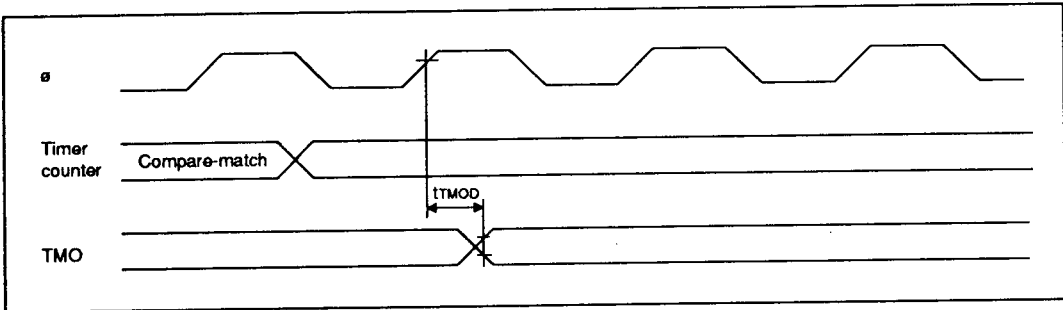

Figure 19-17 8-Bit Timer Output Timing
19.3.6 8-Bit Timer Timing	Figures 19-17 to 19-19